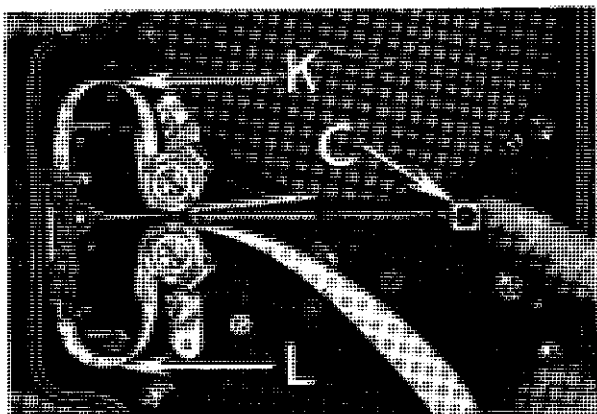

Figure 9
8. Inspect the upper and lower film loops, K and L, Figure 9. They should be of the size shown, their extremities being about $\frac{1}{4}$ inch from the metal camera shell. Correct their size if necessary by drawing the film forward or backward over the lower sprocket.
10. Make sure that the leader perforations are still engaged with the teeth of both feed and take-up sprockets and with the shuttle teeth and that the loops are still of the size described in paragraph 8. Then close the film gate by pushing the film gate arm C forward as far as it will go. Be careful not to stop at the intermediate point. The gate should be pushed up snugly against the film. This operation is shown just completed in Figure 9.